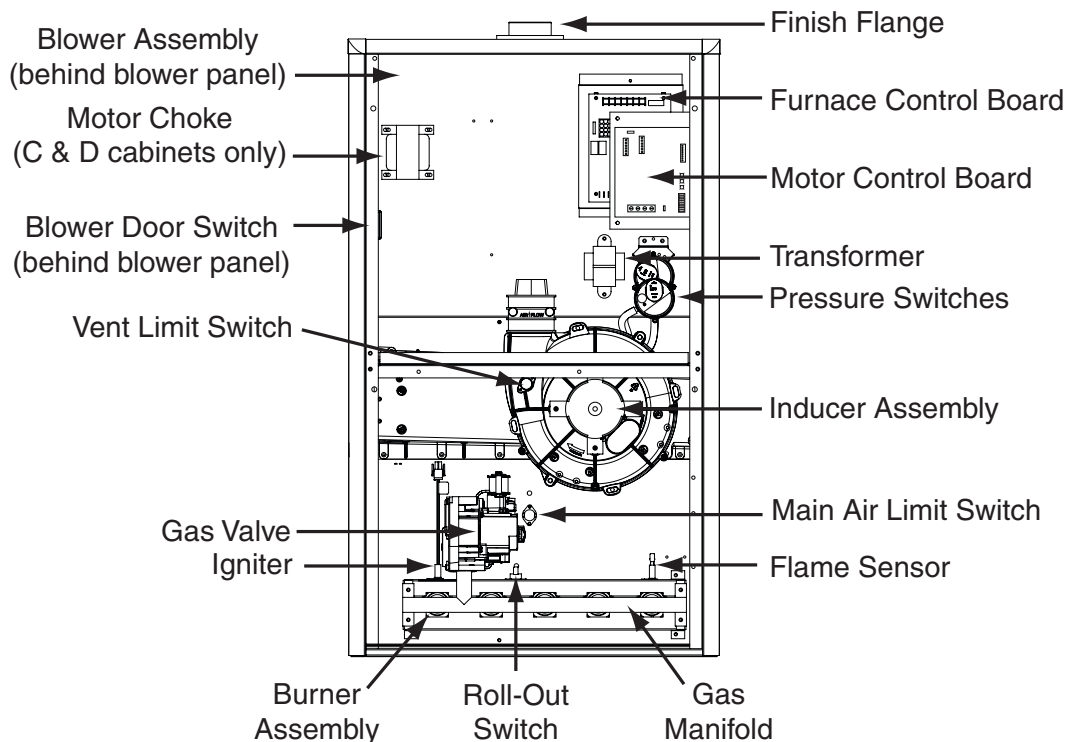

Figure 37. Component Locations
- If the Inducer Blower is operating, and items above have been verified, check the Blower Limit Switch and reset if necessary. See Figure 37 (page 48).
- If the furnace still doesn't operate, check the Flame Roll-out Switches (Figure 37) and reset if necessary.
The descriptions below are various functional components that affect the operation and shutting down of this furnace. Some of these components and their locations are shown in Figure 37 (page 48). If any component of the furnace must be replaced, use only factory authorized replacement parts specified in the Replacement Parts List provided online.